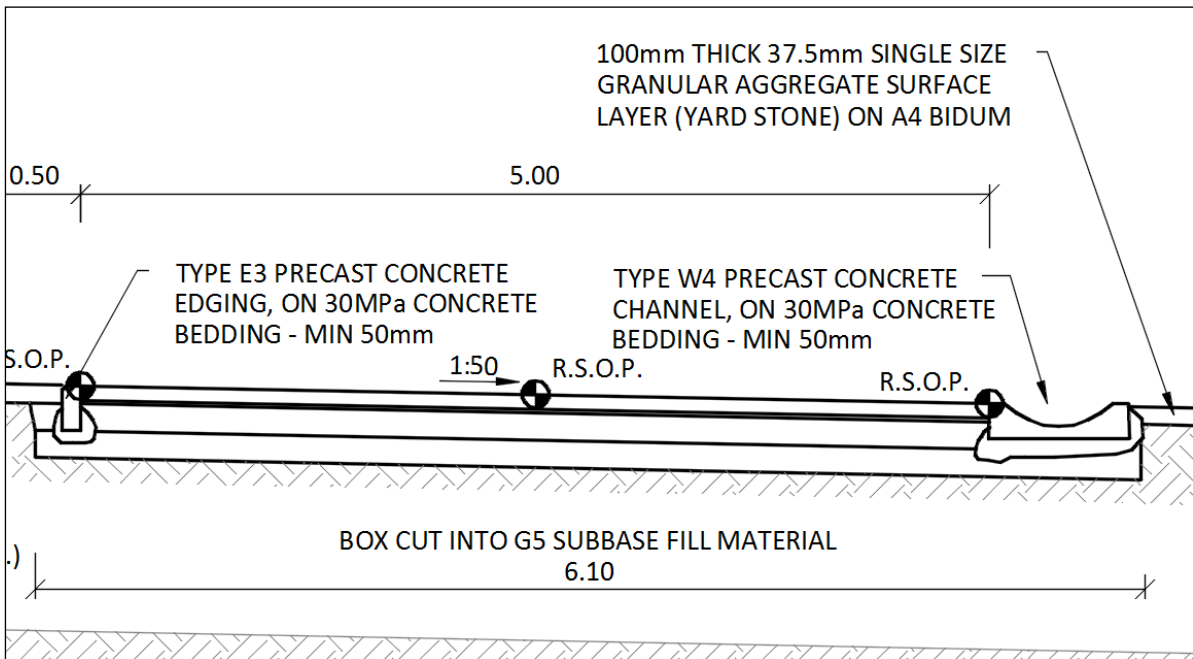

Figure 25: Typical Precast Concrete Channel Detail
- Figure 25: Typical precast concrete channel detail.